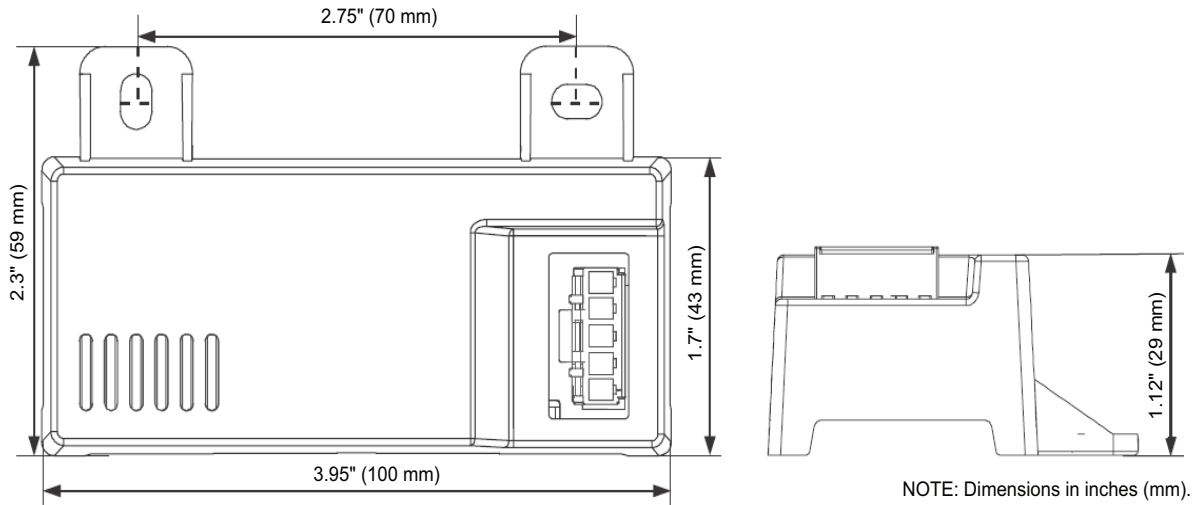
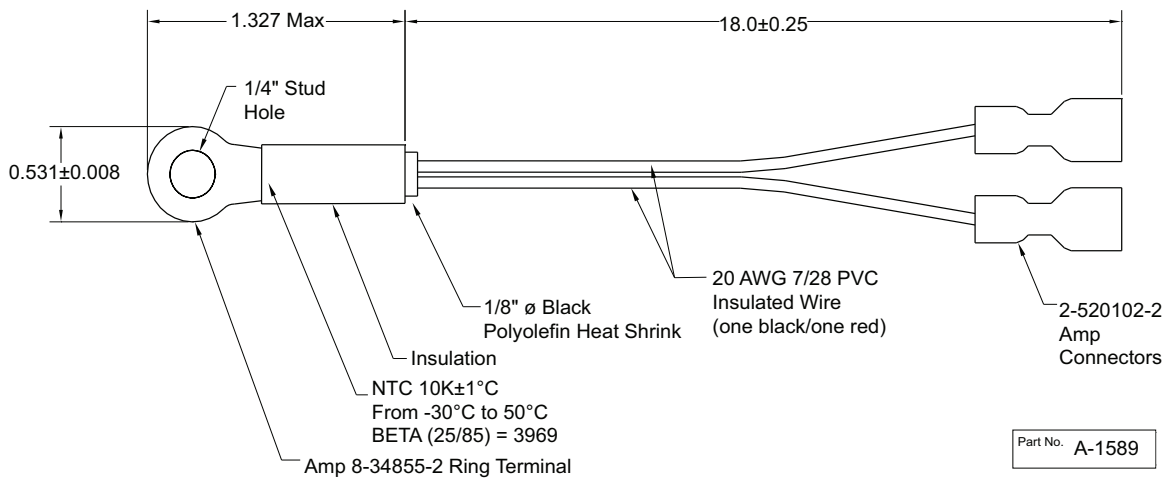
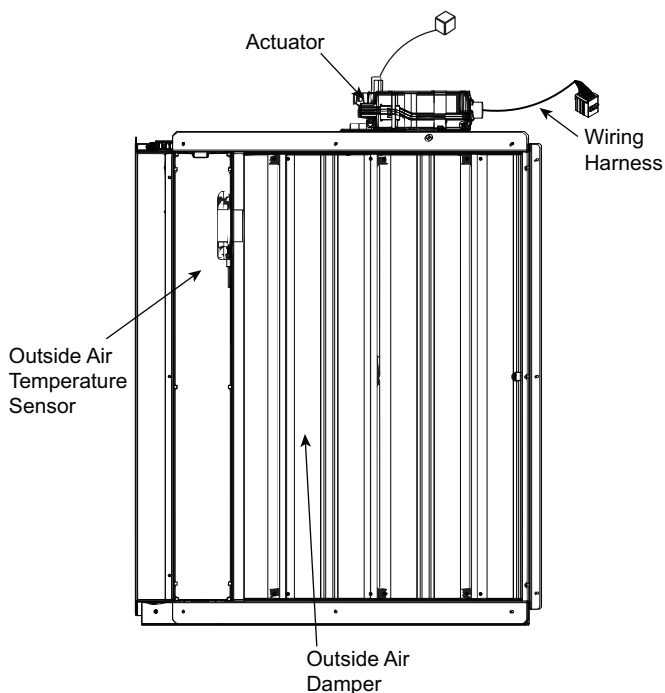

Fig. 55 — 1196582 Dimensional, Connection and Switching Information
Fig. 56 — 1193547 Dry Bulb and Mixed Air Sensor Wiring
Fig. 57 — EconomizerONE Component Locations (CRECOMZR108A00 Shown)
When using the 1196582 enthalpy sensor (see Fig. 55) for outside air changeover, the existing 1193547 dry bulb sensor (see Fig. 56) must be removed. The enthalpy sensor will be mounted in the same location as the dry bulb sensor (see Fig. 57). When the enthalpy sensor's OA (Outside Air) temperature, enthalpy, and dew point are below their respective setpoints, the outside air can be used for free cooling. When any of these are above the setpoint, free cooling will not be available. Enthalpy setpoints are configurable and create an enthalpy boundary according to the user's input. For additional details, see Fig. 58-59 and Table 27.
The optional enthalpy control sensor (P/N: 1196582) communicates with the POL224 economizer controller using the 5-wire harness, 1201876. The 1196582 sensor can be used as a single outside air enthalpy, a differential return enthalpy, or a differential return temperature sensor. Refer to the base unit control wiring diagrams found earlier in this book to wire the 1196582 enthalpy sensor for each option. Use Fig. 55 and Table 29 on page 45 to locate the wiring terminals for each enthalpy control sensor.
Economizers are shipped standard with an 1193547 outside air dry bulb sensor (see Fig. 56). System default setting (high temp limit) is 63°F (17°C) and has a range of 48°F to 80°F (9°C to 27°C). Sensor is factory installed on economizer.
If installing the optional 1196582 enthalpy sensor, the 1193547 dry bulb outside air sensor must first be removed. Wire sensor to harness 1201876 and the (5) wires from the harness to the EconomizerONE harness in the return air chamber. Harness 1201876 has a 5-pin plug that connects directly to the 1196582 enthalpy sensor. Refer to the base unit control wiring diagrams earlier in this book for wiring connections. Refer to Fig. 55 and Table 29.